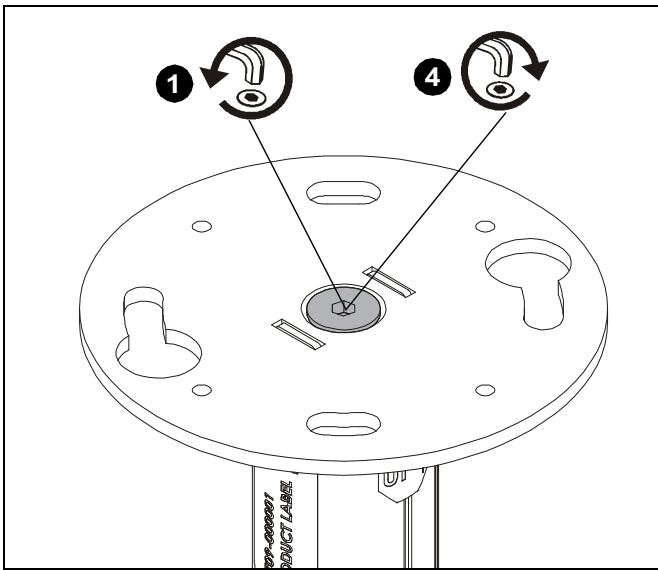

Figure 1
1. Loosen bolt on top of KITEC/KITMC Series mount (E) by turning bolt 1-2 full rotations. (See Figure 1)
4. Tighten bolt on top of KITEC/KITMC Series mount (E). (See Figure 1)